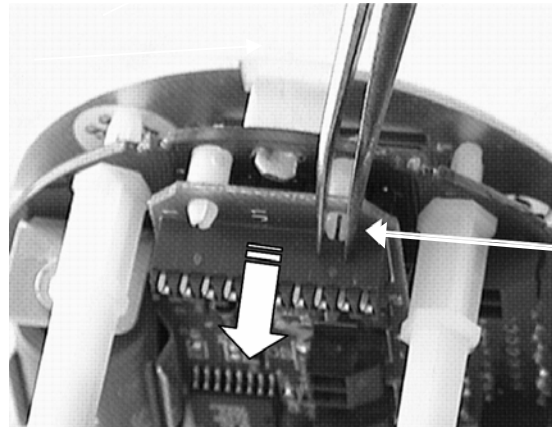

Figure 20
Step 2) Squeeze the standoffs (Figure 20) to remove either the center battery board, or an existing 4-20mA board. (The small battery board is replaced by the 4-20 mA output board when the 4-20 mA option is added.)